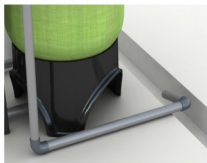

Figure 1-4
- If the valve belongs to time clock type (F99A1), there are no step ②.
- ④ Install drain pipeline (If no special requirement, the standard DLFC is No.7703)
- e. Glue the drain outlet with UPVC (DN40). Put drain outlet pipe to sewer as showed in the Figure 1-4.